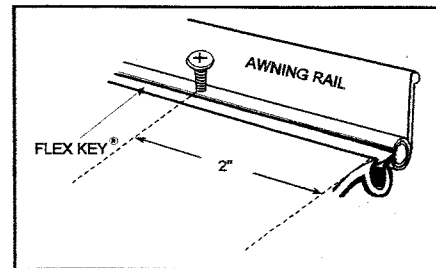

Figure 6
10. Center the awning in the awning rail so that the arms are parallel to the slideout frame. Drill a 1/8" hole through the rail approximately 2" in from each end of the awning rail. Secure the awning in place with #6 X 1/2" sheet metal screws (Fig. 6).
13. **TO OPEN AWNING.** Open the latches on the arm lock brackets. Catch the loop of the Pull Strap with the patio awning pull rod ( not supplied with slideout awnings ) and pull out ward from the coach. Grasp the strap just above the top loop and use the other hand to slip the loop onto the protruding finger of the hold down hook. Tuck the webbing portion of the strap into the pocket on the fabric portion of the strap (Fig. 6).